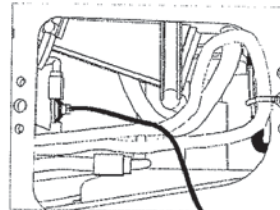
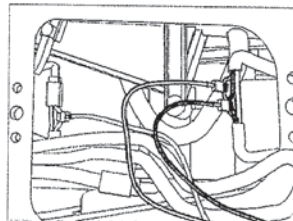

Figure 2
Figure 4
4. Locate the ECU. Find the illustration below that best represents your bike. In the ECU harness, locate the white/yellow and the dark-green/grey wires. Attach T-taps to these leads as shown in the illustrations. Connect the corresponding leads from the TFI to these T-taps using insulators and spades as before. (See Touring fig. 2, Softail fig 3, or Dyna Tech Tip.)
Dyna Tech Tip: To gain access to power (Dyna figure 2) and injector wires (Dyna figures 4 & 5) you must cut zip ties (highlighted yellow) and pull necessary harnesses out from under frame (under seat).